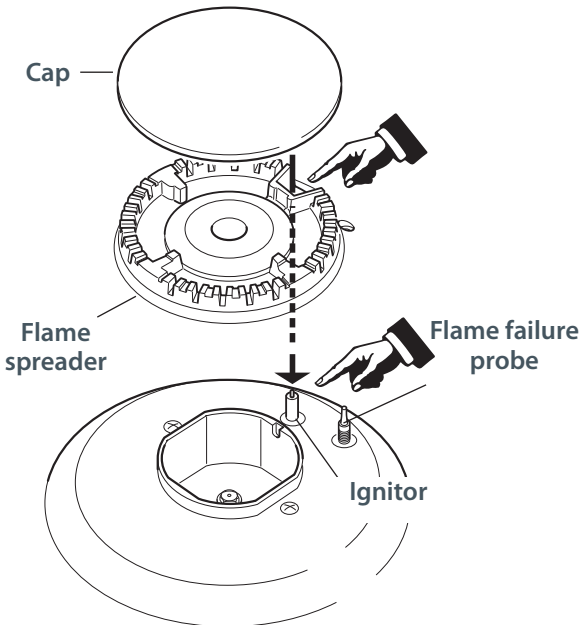

Fig. 18 Correct line-up of auxiliary, semi-rapid and rapid burner parts
- Positioned correctly as shown in Figs. 18, 19, 20, 21 and 22.
- It is very important to check that the burner flame spreader and the cap have been correctly positioned (see Fig. 18). Failure to do so can cause serious problems.
- Check that the ignitor (Figs. 18 and 20) is always clean to ensure trouble-free sparking.
- Check that the probe of the flame failure safety device (Figs. 18 and 20) next to each burner is always clean to ensure correct operation of the safety valves.